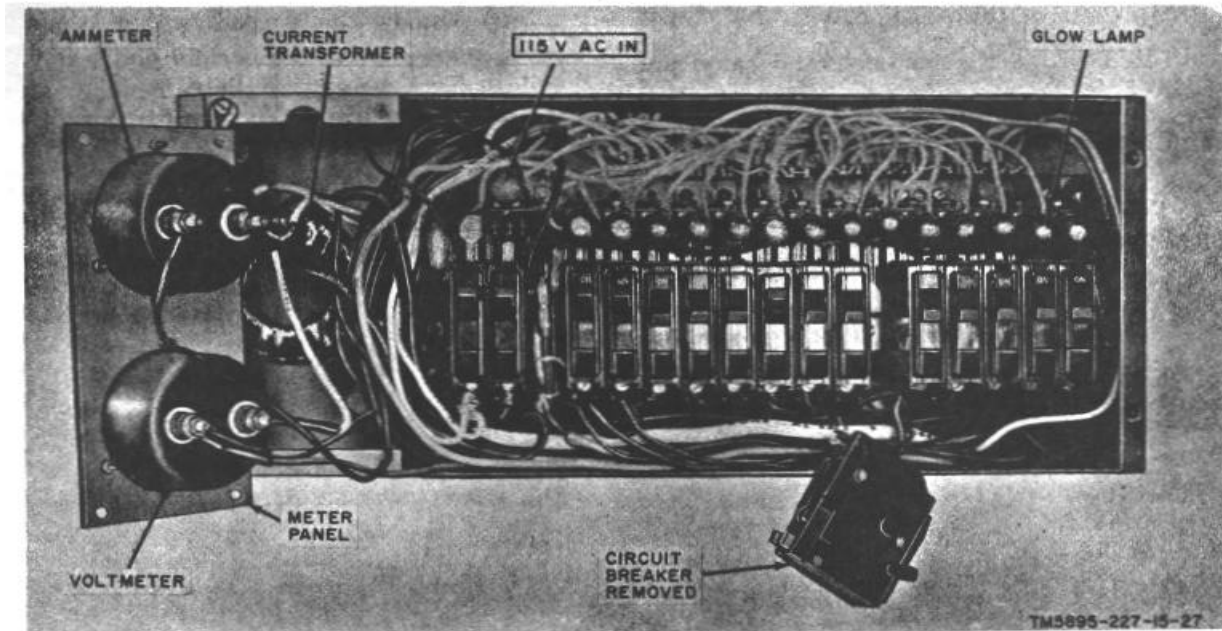

Figure 33. Power distribution panel, meter panel and circuit breaker switch removed.
52. Power Distribution Panel Repairs (fig. 33)